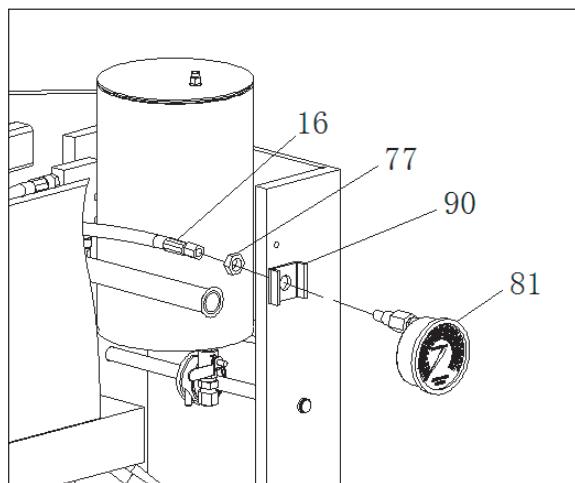

Fig. 3
- Take off the plunger from oil hose (16), pay attention to the O-ring should keep in oil hose (16).
- Unscrew the nut (77) from pressure gauge (81).
- Tighten the pressure gauge (81) to the frame (90) by using nut (77).
- Tighten the oil hose (16) and pressure gauge (81) (refer to Fig. 3).